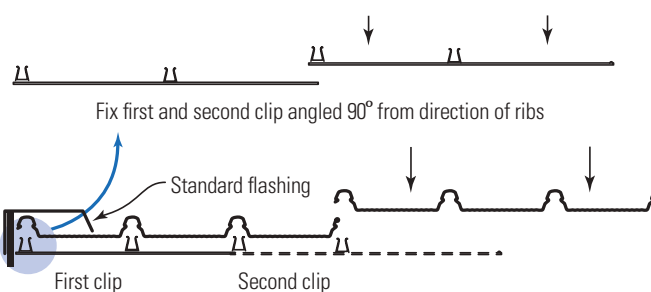

FIGURE 3
- 2 Position the first clips on each support by placing onto the support nearest the gutter. (Figure 3)